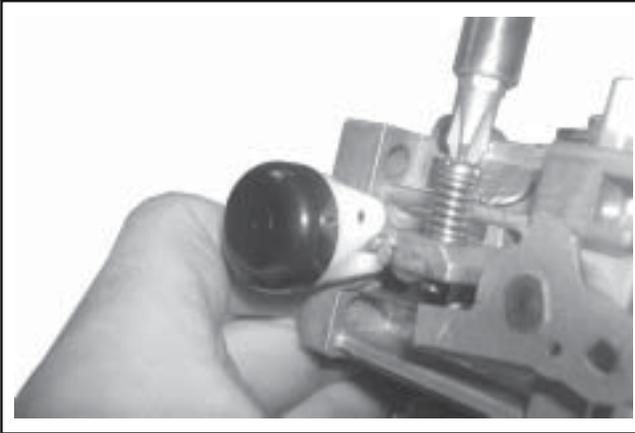

Figure 5-28. Installing Idle Speed Adjusting Screw and Spring.
- Install the new idle speed (RPM) adjustment screw and spring onto the carburetor. Thread in until 3 or 4 threads are exposed, as an initial adjustment. See Figure 5-28.